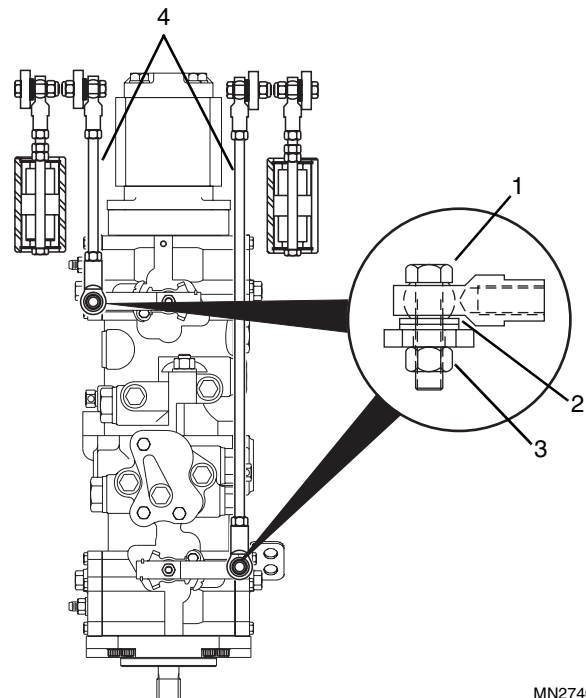

Figure 5-22 Control Pump Disassembly
13. Remove the capscrews (Fig. 5-22, 1), flat washers (2), and hex locknuts (3) that fasten the transmission control linkage (4) to the transmission levers on both sides of the control pump assembly.